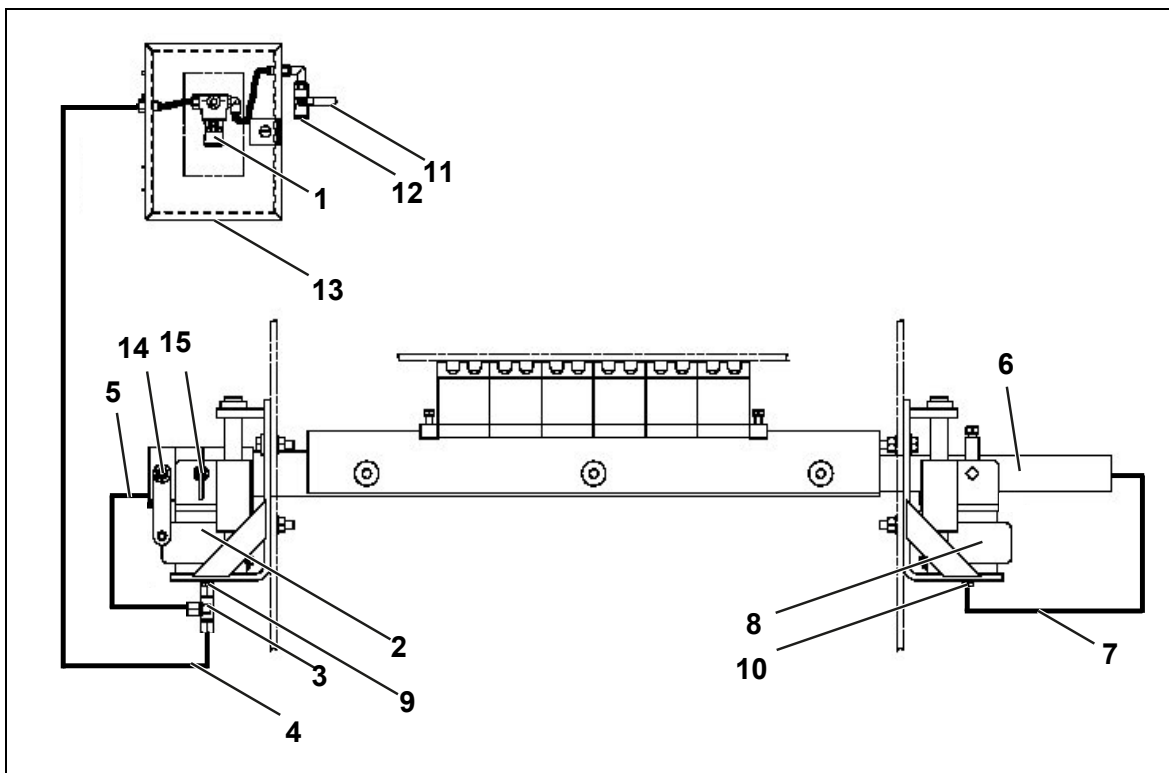

Fig. 22
1. Push the compressed air hose (5, Fig. 22) through the mainframe (6, Fig. 22) onto the operator side.
2. Fasten the compressed air hose (7, Fig. 22) to the connection (10, Fig. 22) of the air bellows (8, Fig. 22) on the far side.
3. Plug the end of the compressed air hose into one connection of the T-piece (3, Fig. 22) on the operator side.
4. Plug the T-piece into the connection (9, Fig. 22) of the air bellows (2, Fig. 22) on the operator side.
5. Connect the third junction of the T-piece (4, Fig. 22) to the compressed air system (1, Fig. 22).
7. Connect the ball valve (11, Fig. 22) to the external compressed air supply (12, Fig. 22).
10. Open the housing (13, Fig. 22).